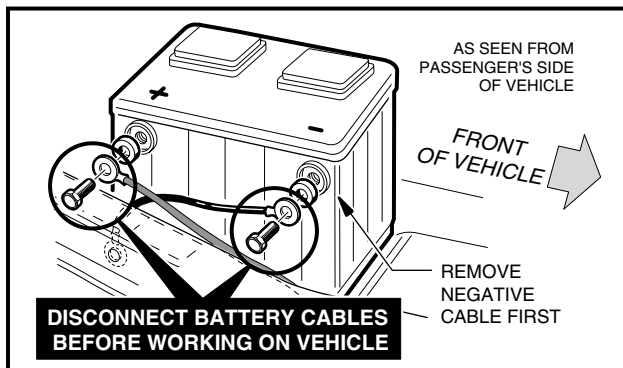

Figure 1-1 Gasoline Vehicle
- DISCONNECT BATTERY CABLES, NEGATIVE (-) FIRST (**FIGURE 1-1, PAGE 1-3**).